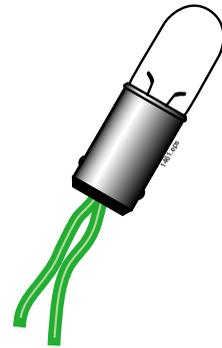

Figure 1.2 The 2-volt penlight.
7. Identify the 2-volt penlight. It looks like a small incandescent bulb and is approximately the same size as the LEDs. A diagram of the penlight is shown in **Figure 1.2**.